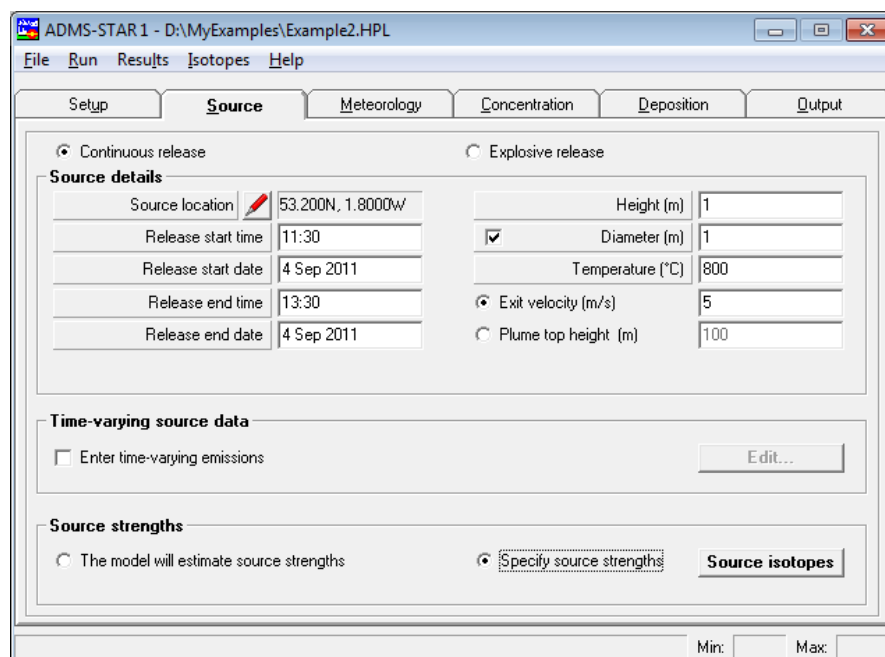

Figure 7.12 - Example 2: the Source screen
- Step 4** In the **Source** screen, select the **Continuous release** radio button at the top of the screen and enter the source details as shown in **Figure 7.12**.